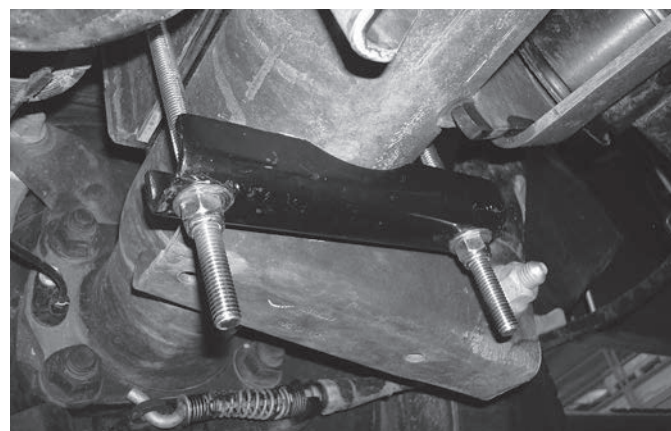

fig. 19
6. Torque evenly to 10 lb.-ft. (Fig. 19). Repeat for the other side.